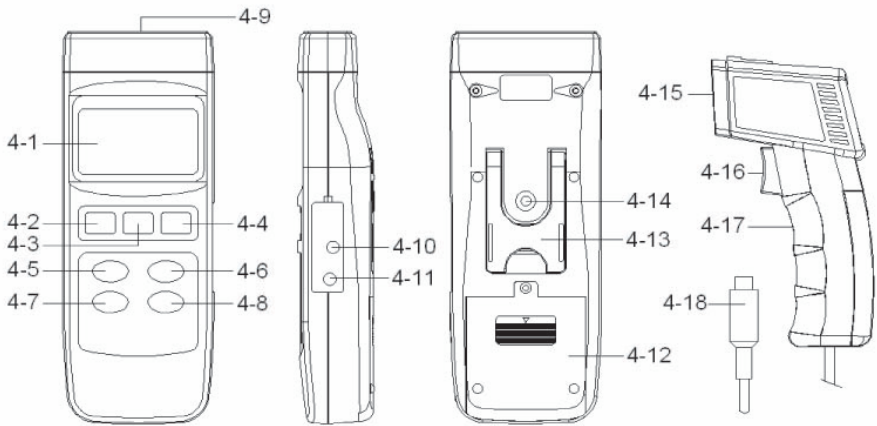

Fig. 1
1. Connect the "Probe Plug" (4-17, Fig.1) to the "Input Socket" (4-9, Fig.1).
2. Power the meter on by pressing the "Power Button" (4-2, Fig.1). The display will show zero values.
3. Use the "Probe Handel" (4-17, Fig.1) to position the "Color Sensor Element" (4-15, Fig. 1) over the color to be measured. Ensure that the front of the color sensor head is flush with the surface.
3. Press the "Light On/Off Button" (4-8, Fig. 1).
4. Use the "Probe Handel" (4-17, Fig.1) to position the "Color Sensor Element" (4-15, Fig. 1) over the color to be measured. Ensure that the front of the color sensor head is flush with the surface.
5. If the LEDs near the "Color Sensor Element" (4-15, Fig. 1) turn on then the meter is set to still measure non-light emitting samples. Press the "Light On/Off Button" (4-8, Fig. 1) to turn off the LEDs.
1. For RGB measurements follow steps from section 4-2 and then press the "Measurement Trigger" (4-16, Fig. 1) or the "Test Button" (4-3, Fig. 1).
2. Continue to hold the "Color Sensor Element" (4-15, Fig. 1) in place while the meter makes its measurement. During the measurement you will see the "Mesu" marker on the top of the LCD. The measurement process takes approximately 5 seconds.
1. For HSL measurements follow steps from section 4-4, then press the "RGB/HSL Button" (4-7, Fig. 1). This will display the HSL values. A separate measurement is not necessary.
2. You toggle between values by pressing the "RGB/HSL Button" (4-7, Fig. 1).
1. After a measurement has been made, press the "REL Button" (4-6, Fig.1) and the LCD should display all zeros.
3. Press the "REL Button" (4-6, Fig.1) to exit the REL mode.
3. Place the "Color Sensor Element" (4-15, Fig. 1) over the White Card making sure that it is flush with the card surface.
4. Simultaneously press the "Function Button" (4-4, Fig. 1) and the "CAL Button" (4-5, Fig. 1) then release the buttons to commence calibration. It is important to keep the probe in place during the entire process.
This instrument has RS232 PC serial interface via a 3.5 mm terminal (4-12, Fig. 1).
2. Open the "Battery Compartment" (4-12, Fig. 1) by first loosening the single battery cover screw.
3. Replace the batteries with "good" batteries noting the correct polarity. Replace "Battery Compartment" (4-12, Fig. 1) and battery cover screw. Ensure the cover is securely fastened.
1. If during a "Non-Light Emitting Sample Measurement" the meter displays unusually low RGB values, check and make sure both LEDs are turning on when you press the "Measurement Trigger" (4-16, Fig. 1) or the "Test Button" (4-3, Fig. 1).